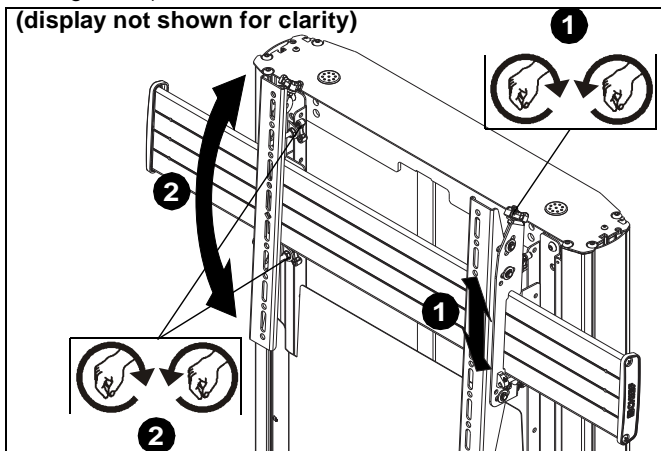

Figure 22
1. Use upper knob on back of interface brackets (A and B) to adjust the height of the display. (See Figure 22)
2. Use middle and lower knobs on back of interface brackets (A and B) to make plumb adjustments to display. (See Figure 22)